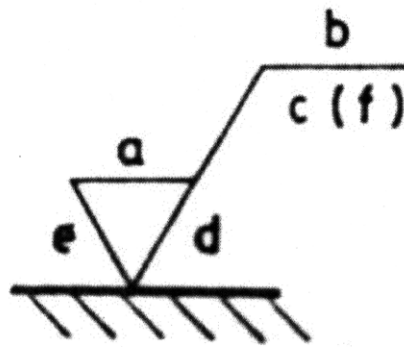

Fig 1
2. Indicate the surface texture characteristics of the symbol shown in **fig 1**.